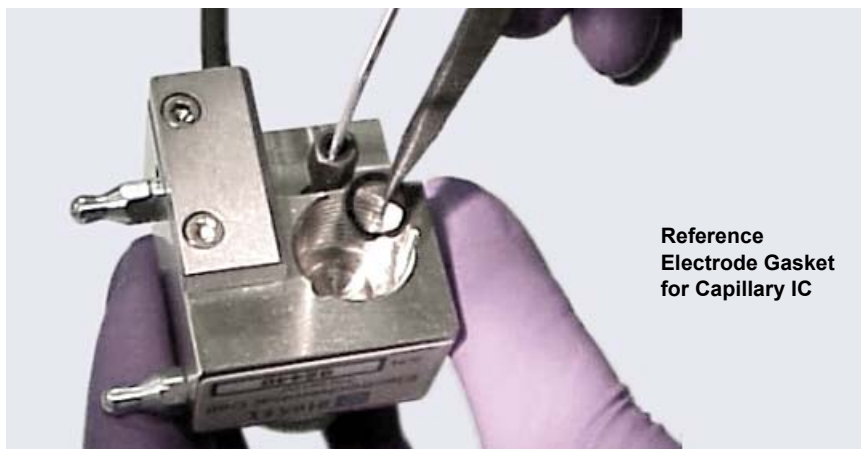

Figure 9-61. *Reference Electrode Gasket for Capillary IC*
3. Using tweezers, install the reference electrode gasket for capillary IC (P/N 072162) into the bottom of the reference electrode well (see Figure 9-61).